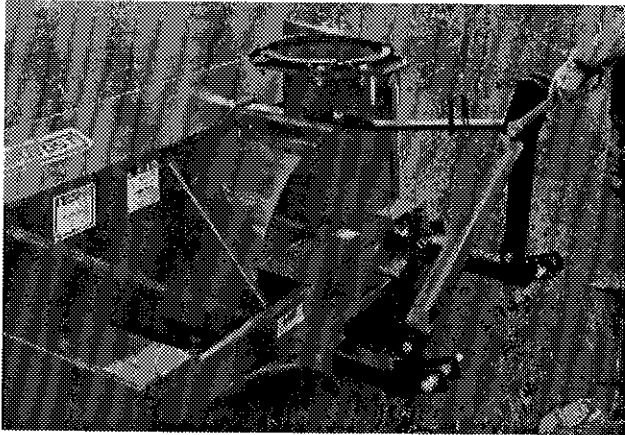

Figure 16
- 2) Install 3-point system according to the model of your Snowblower. (See section 10 for parts numbers). Use the holes most convenient to the type of tractor used (Fig. 16).